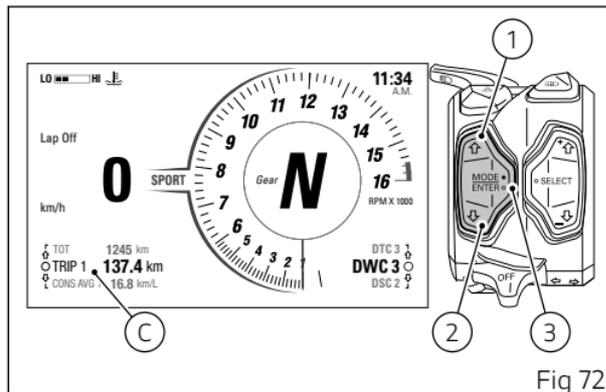

Fig 72
Trip information "TRIP 1" (C, Fig 72), "CONS. AVG 1", "SPEED AVG 1" and "TRIP 1 TIME" can be reset by pressing the ENTER button (3) when selected: the message "RESET?" is displayed instead of the data. To cancel press button (1) or (2), to confirm press the ENTER button (3).